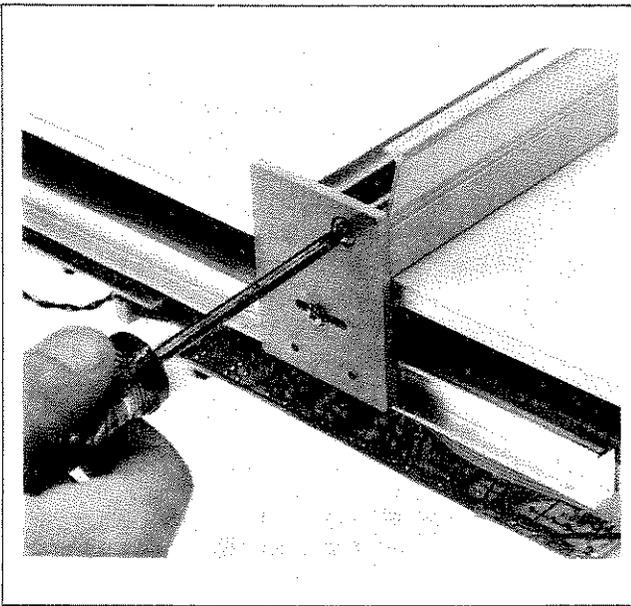

Figure 8-6. Carriage Arm Removal
- f. Remove screw at front end of slider rod. See Figure 8-6.
- e. Remove screw at front end of slider rod. See Figure 8-6.
- m. Reset cable tension with cable tension screw so no slippage can occur. See Figure 8-6.